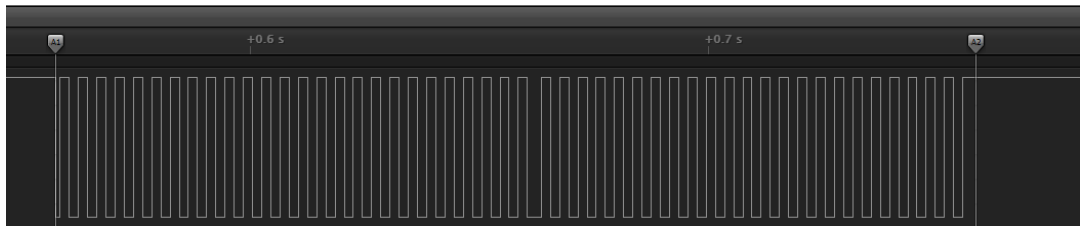

Figure 5: Digital pin toggling measured on PD0.
The *sleep*(1) routine is added in the loop to delay the PC loop of 1 msec. The toggling of the GPIO is in fact limited by the USB refresh rate, which occurs at about 1 msec.. The max. total toggling rate is measured to be 250 Hz, see figure 5. It is observed that some slips of ± 1 msec happens with a rate of 2% of the toggling count. For values of sleeps lower than 1 msec., the toggling is not more reliable and toggling loss may occurs.